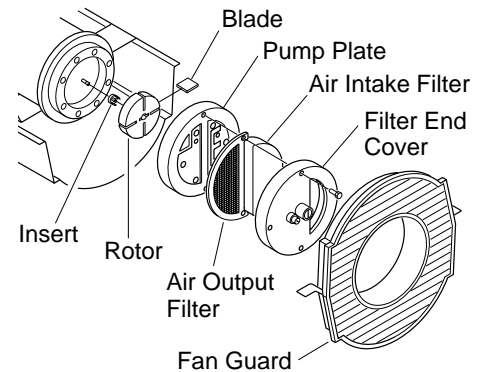

Figure 14 - Rotor Location
6. Carefully unscrew nozzle from the nozzle adapter using 5/8" socket wrench (see Figure 14).